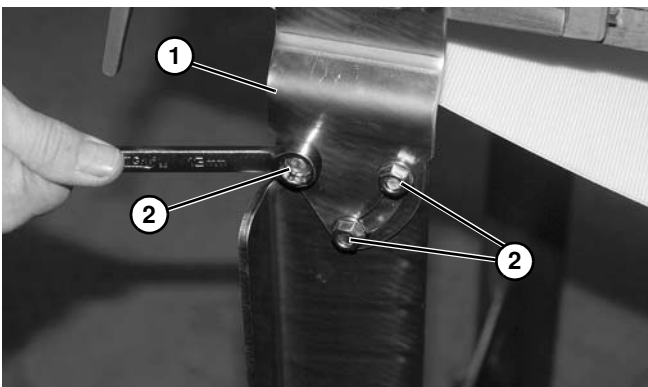

Figure 6
7. Fixed Height Stands: Adjust the bracket angle on the slotted brackets (**Figure 6, item 1**) to match the conveyor angle and tighten the three nuts (**Figure 6, item 2**).